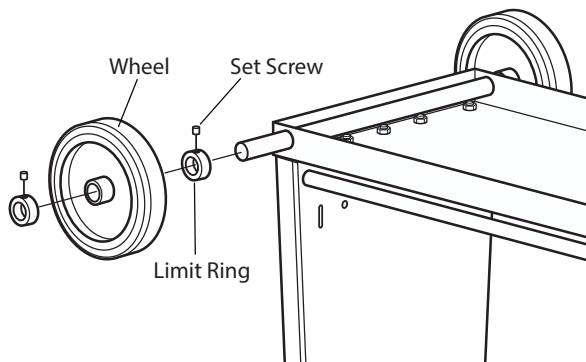

Figure 4-8
- Loosen the set screw (item #14) in the four Limit Rings (item #15) (see Figure 4-8). Slide a Limit Ring over each end of the Axle, followed by a Wheel (item #13) and the remaining Limit Ring (see Figure 4-8). Snug the Limit Rings and Wheels to the Base. **Fully tighten the Limit Ring set screws to the Axle.**